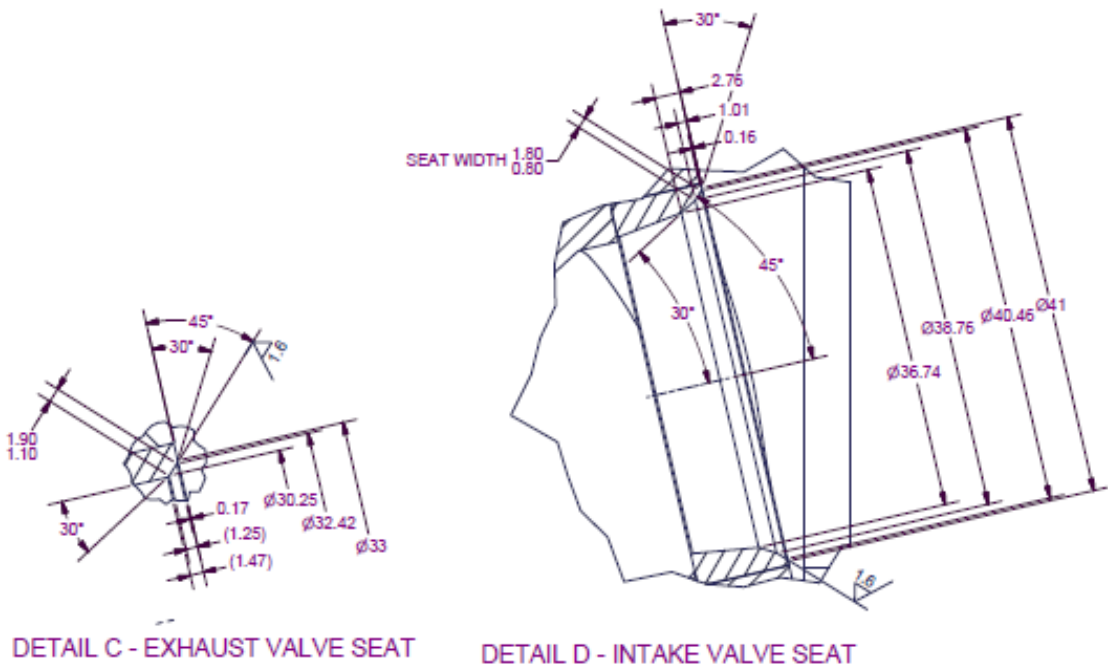

Figure 94 – Valve Seat Geometry
- **Top end overhaul:** apply bearing blue to the valve and rotate the valve against the valve seat using hand pressure only. Remove the valve and inspect for sealing between the valve and the seat – if there is not a uniform seal within the limits shown in Figure 94 then the seats will need to be cut and the valves may also need to be refaced.
- Valve seats are cut at 45 degrees for the actual seat and then under and over cut at 30 and 60 degrees as required to obtain a seat width as shown in Figure 94. In general, try to cut only the minimum amount from each seat in order to extend the life of cylinder heads.